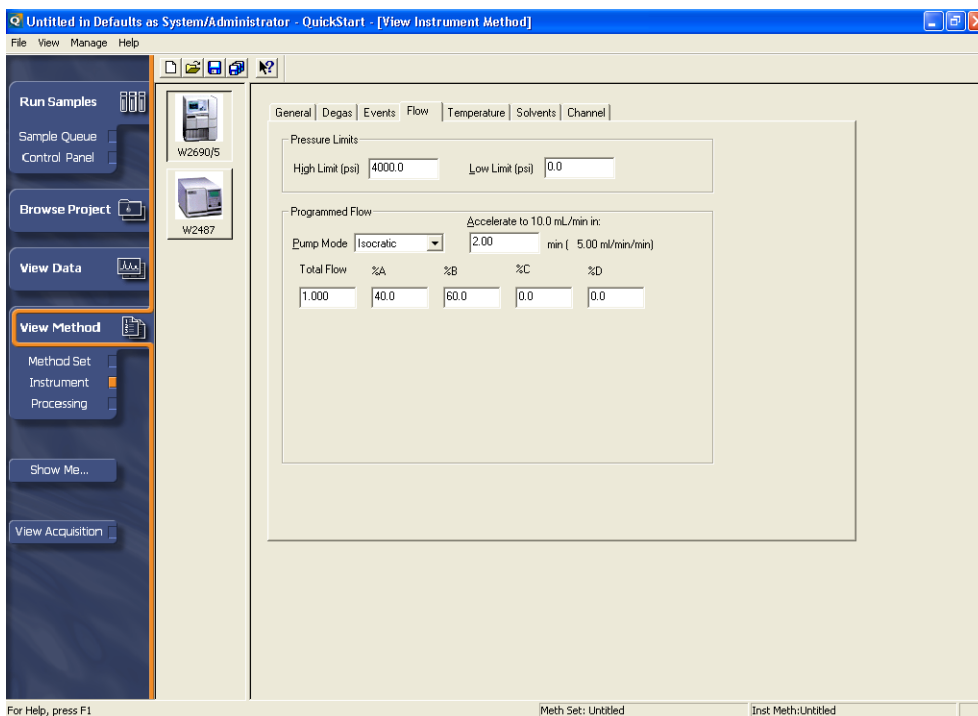

Figure 4-4 View Instrument Method, 2690/2695, Flow Tab
1. Click the **Flow** tab. The Flow tab appears (Figure 4-4).